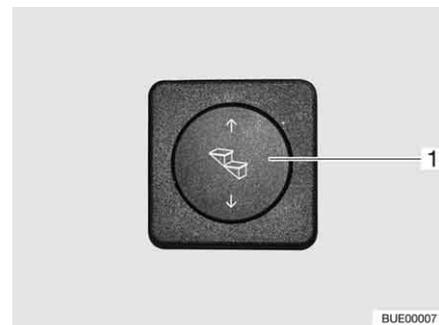

Fig. 13 Operating button for entrance step
- Extending:* ■ Press the rocker button (Fig. 13,1) down and hold it pressed (at least 3 seconds) until the entrance step has extended completely.
- Retracting:* ■ Press the rocker button (Fig. 13,1) up until the entrance step has retracted completely.